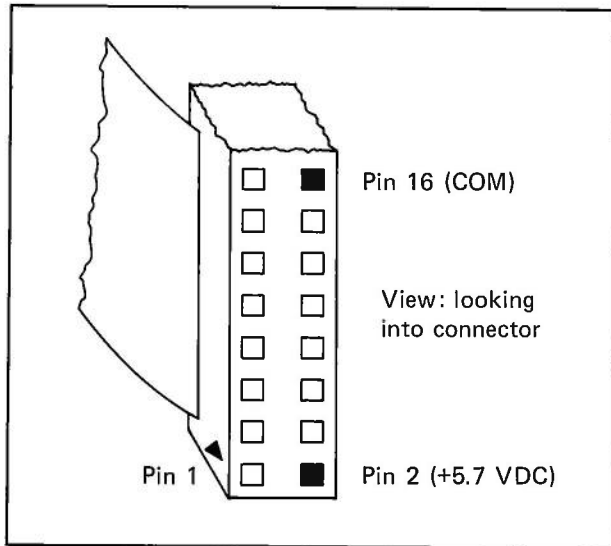

Figure 7 — 50-pin Female Connector on Cable
Step 12 — Locate pin 2 (+5.7 VDC) and pin 16 (COM) on the connector of the Distribution Panel Cable. (See Figure 7.) Use a digital voltmeter to adjust the external power supply output voltage for +5.7 VDC (± 0.05 V). Pin 16 should be negative with respect to pin 2.